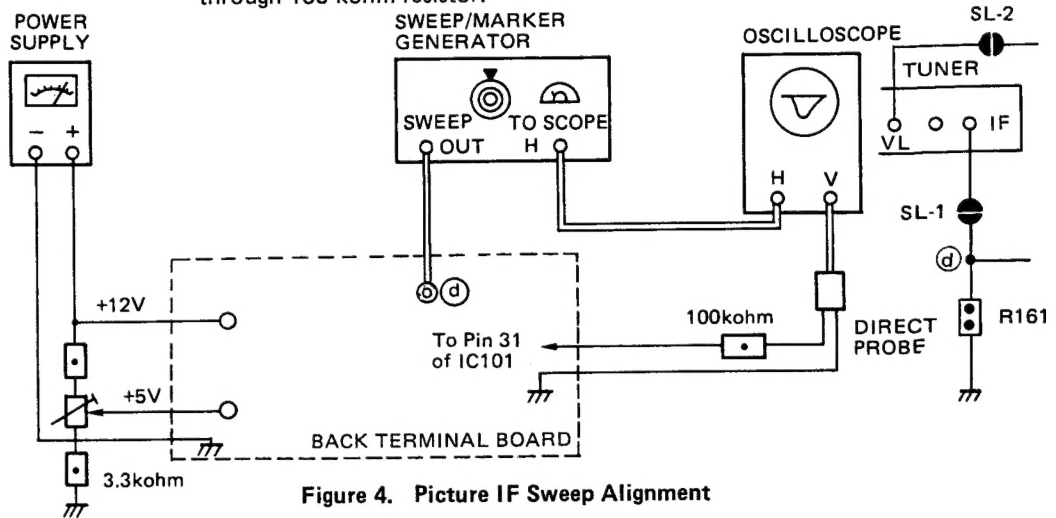

Figure 4. Picture IF Sweep Alignment
- GENERAL** ..... Refer to Figure 4 for test equipment connection.
- PRELIMINARY STEPS** ..... 1. Disconnect the solder link SL-1 and SL-2 (see Figure 4) on the foil side of the Back Terminal Board.
- SWEEP/MARKER/GENERATOR** ... Connect to point (d) as shown in Figure 4 on the Back Terminal Board.